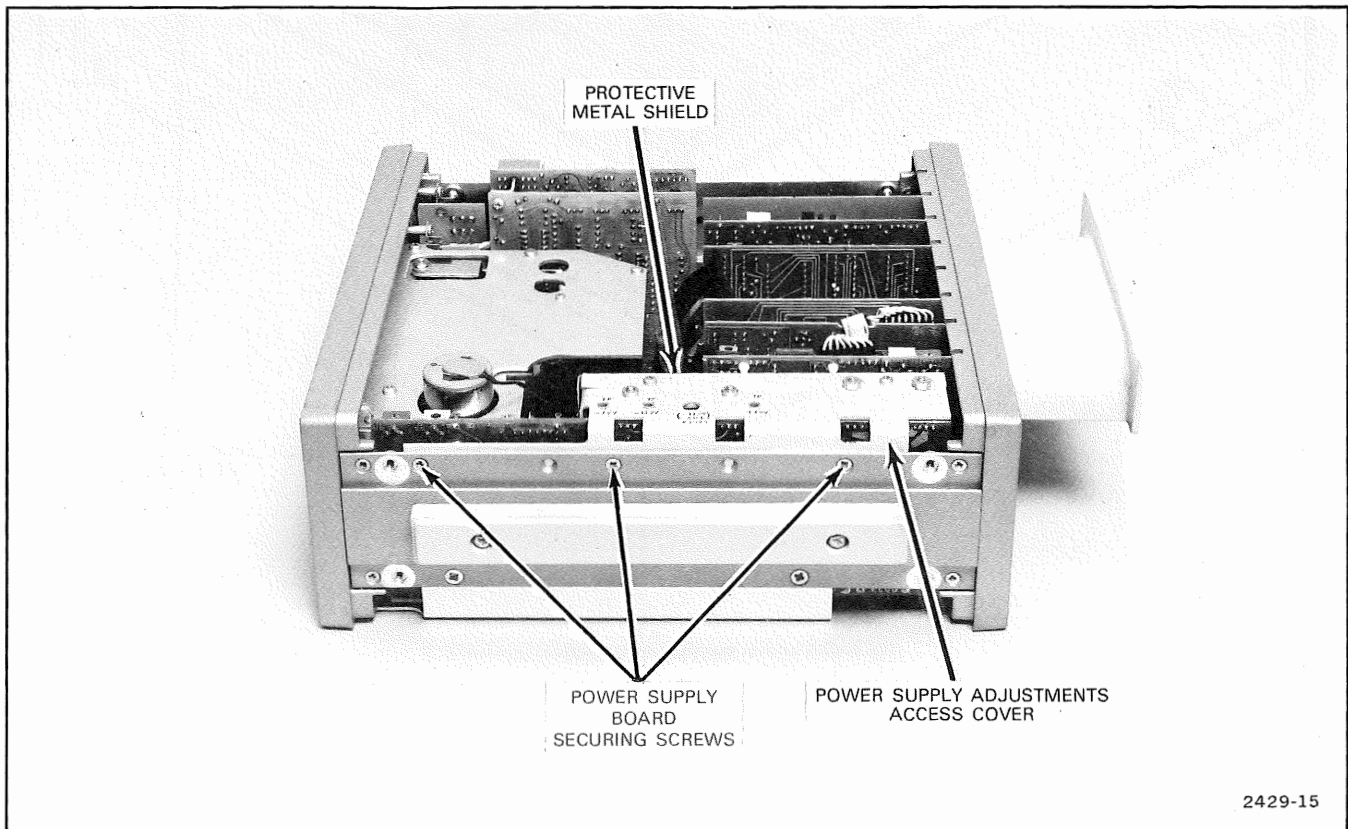

Figure 4-7. Location of screws securing A4—Power Supply circuit board.
3. Remove the 3 screws securing the power-supply adjustments access cover to the chassis side rail. See Figure 4-7.
5. To replace the Power Supply board, first remove the two screws securing the protective metal shield to the power supply adjustments access cover (see Fig. 4-7) and remove the shield.